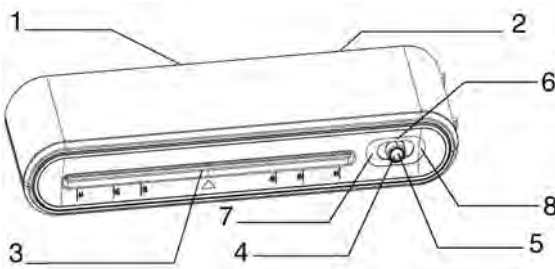

Fig. 1
2. When the blue light comes on, the machine is ready for hot pouches lamination (fig. 1). The warm-up time takes approx. 3-5 minutes.